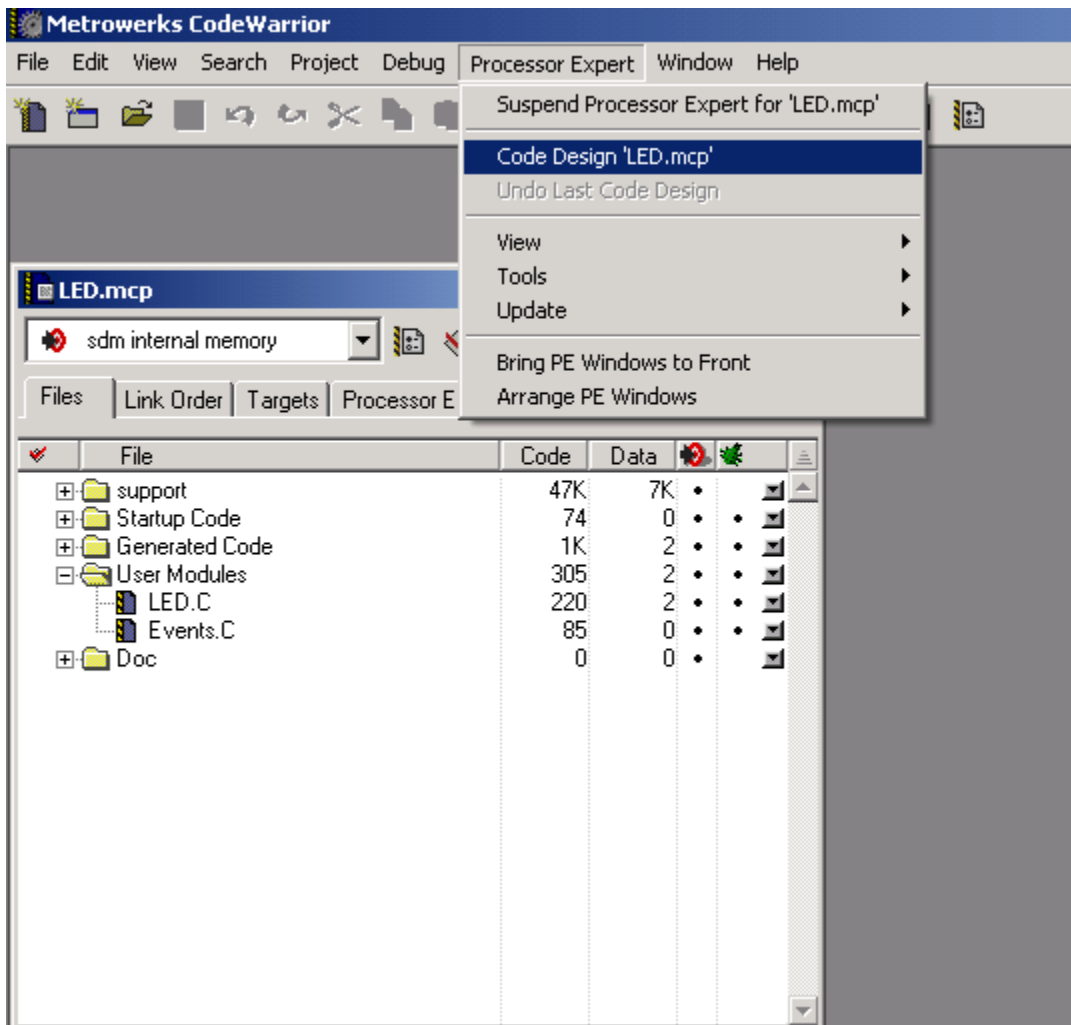

Figure 1-1. Select *Code Design*
- Within CodeWarrior under *Processor Expert*, select *Code Design*. See Figure 1-1. This will enable Processor Expert for that project and allow a user to make modifications to the project with PE.